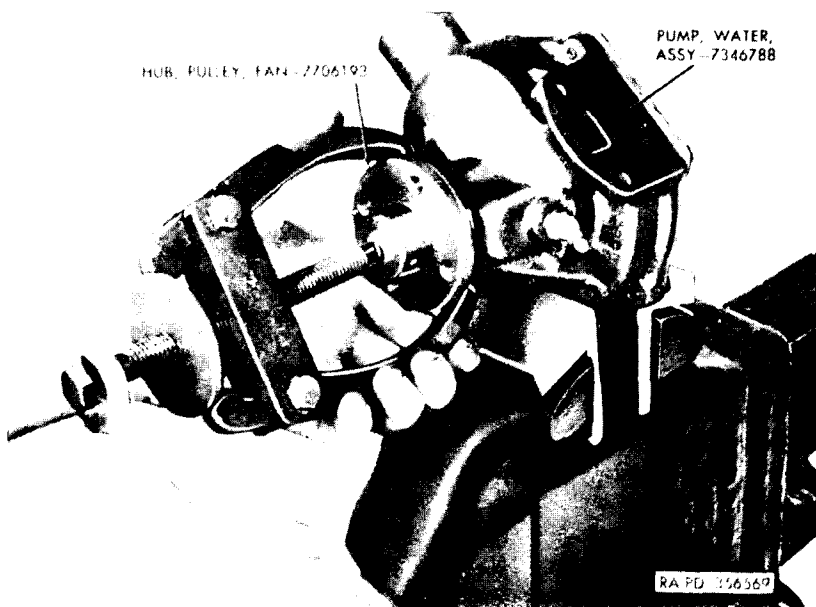
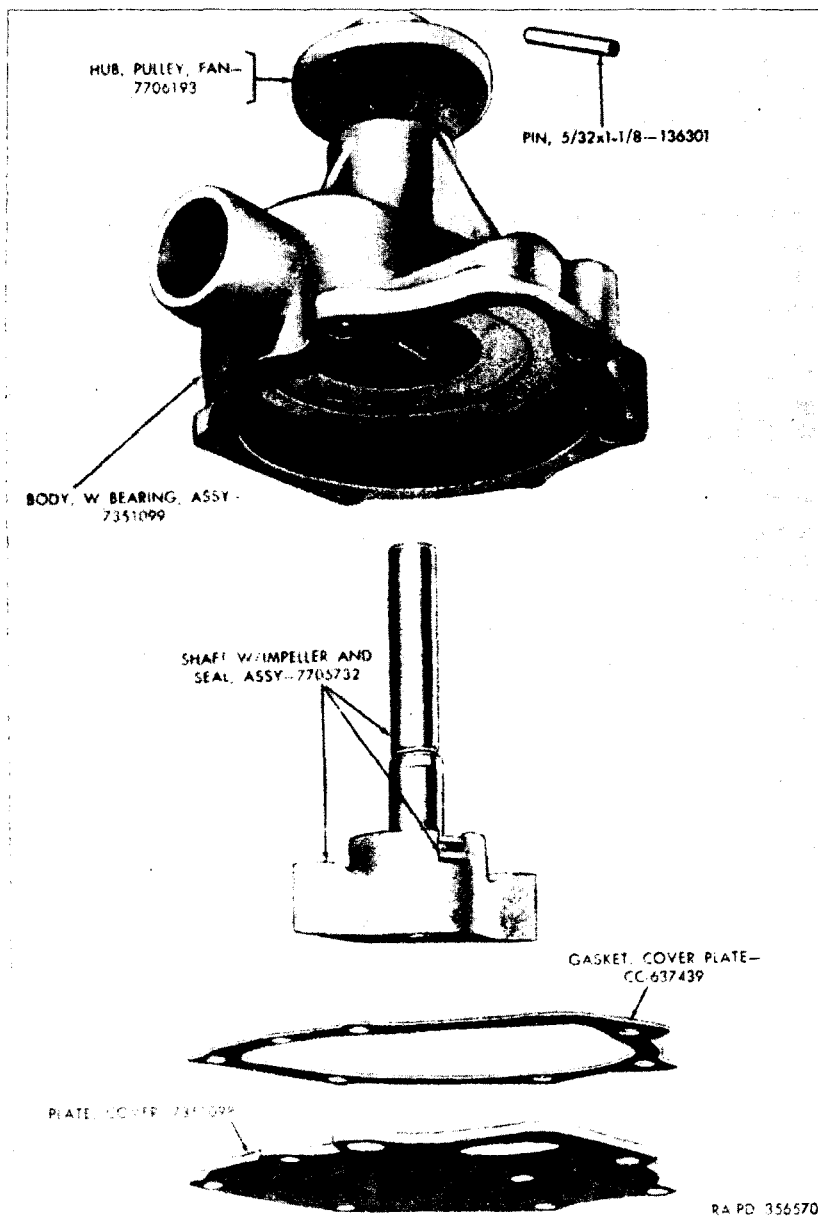

Figure 77. Removing fan pulley hub.
Figure 78. water pump shaft and impeller removed.
- (1) Remove fan pulley hub (fig. 77) after driving out the $\frac{5}{32}$ x $1\frac{1}{8}$ pin. Install puller 41-P-2912 on fan hub and remove hub.
- (2) Remove the water pump cover plate attaching screws and cover plate.
- (3) Pull the shaft, impeller, and seal assembly (fig. 78) out of pump body.